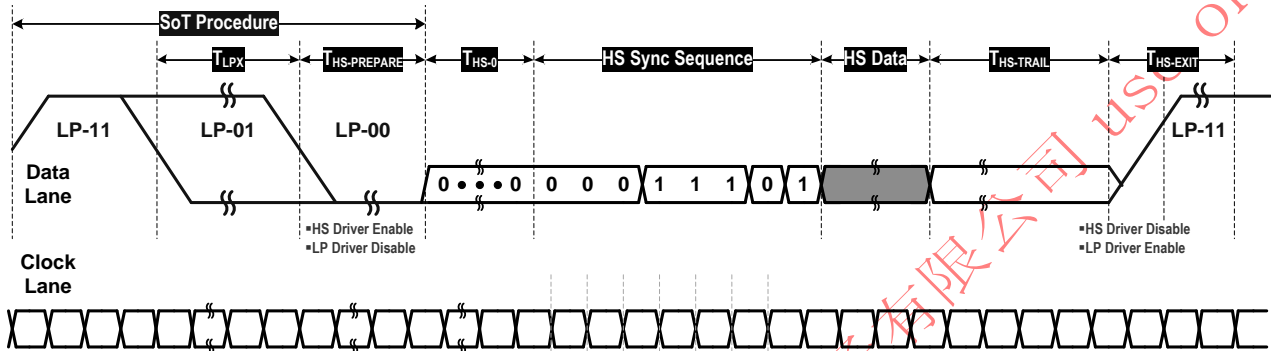

Fig 5.1.1 Switching Timing Between Low Power Mode and High Speed Mode in Video Mode
Fig 5.1.1 shows the timing relation when MIPI receiver switches between Low-Power (LP) Mode and High-Speed Data Transmission (HSDP) Mode. LT8912 only supports video mode data transmission.